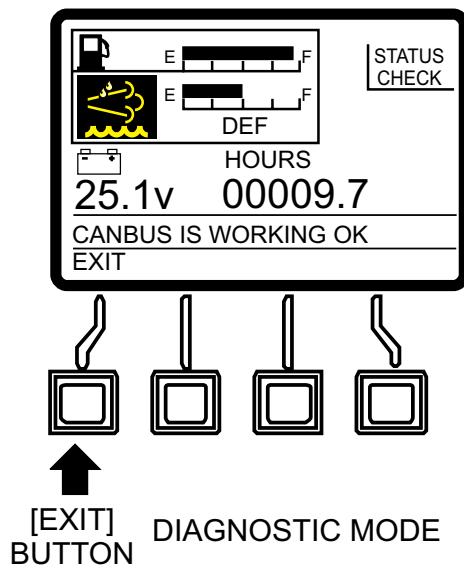

Figure 78. Status Check Screen Diagnostic Mode)
2. Exit the Status Check Screen by pressing the [EXIT] button (Figure 78).